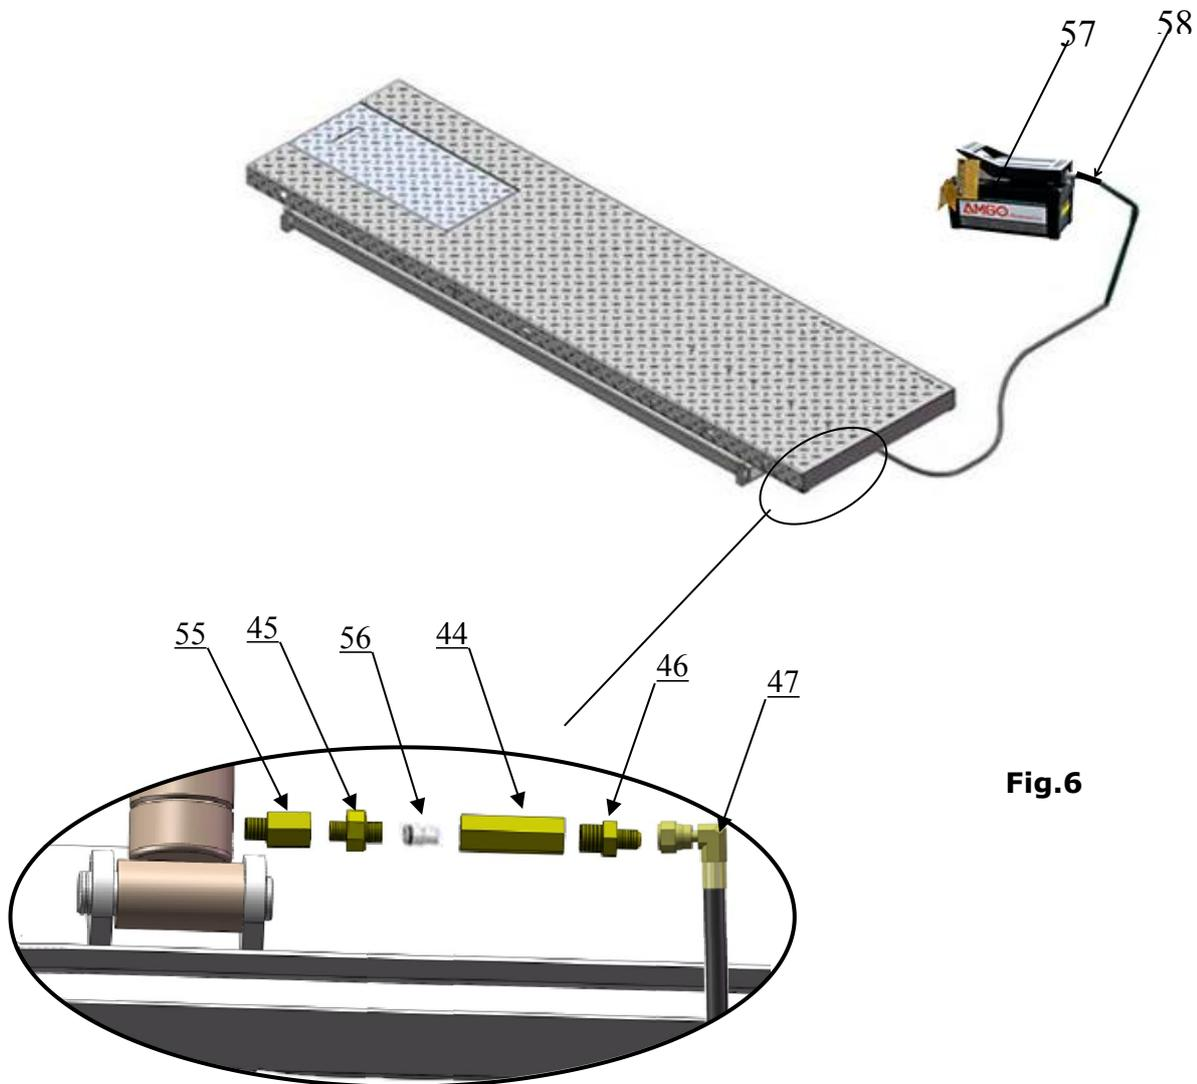

Fig.6
B. Put the lift and pneumatic hydraulic pump in good order and connect the oil hose(see Fig.6)